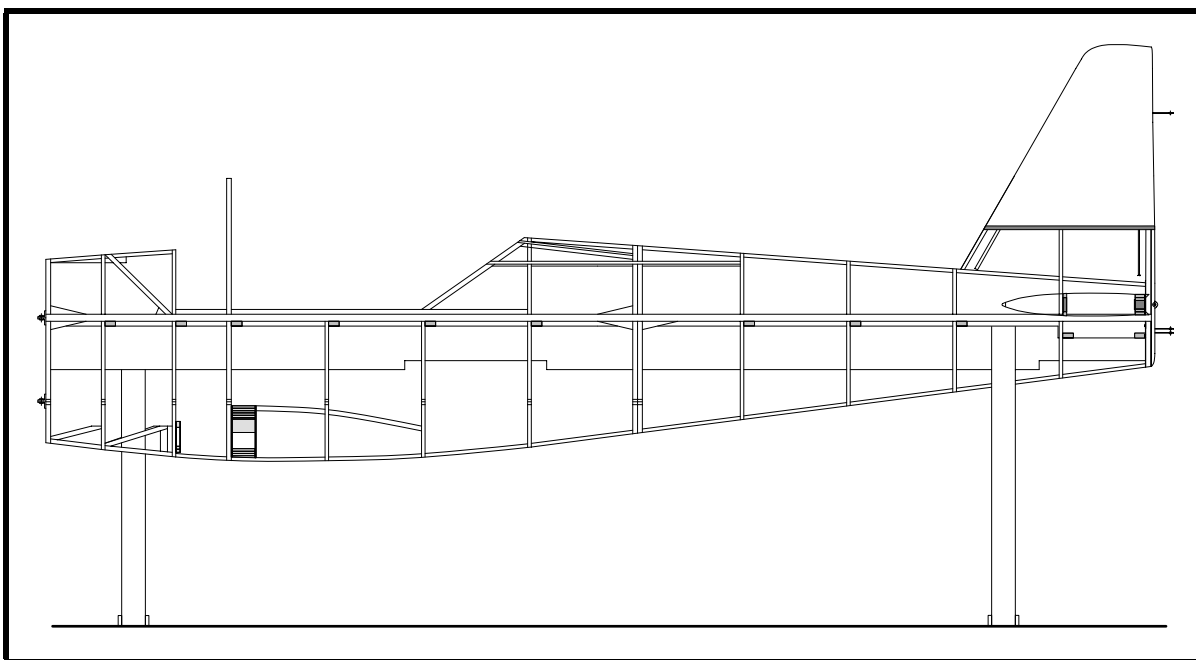

Figure 3
- ❑ Fit and glue in place the 20x18 diagonal braces. See Figure 3.